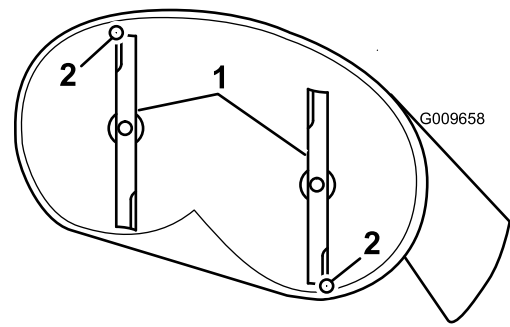

Figure 72
4. Carefully rotate the blades so they are facing front to rear (Figure 72 and Figure 73).
5. Measure from the tip of the front blade to the flat surface, and the tip of the rear blade to the flat surface (Figure 72 and Figure 73).
9. After adjustment, check the front-to-rear slope again, continue adjusting the nut until the front blade tip is 1.6 to 7.9 mm (1/16 to 5/16 inch) lower than the rear blade tip (Figure 72 and Figure 73).